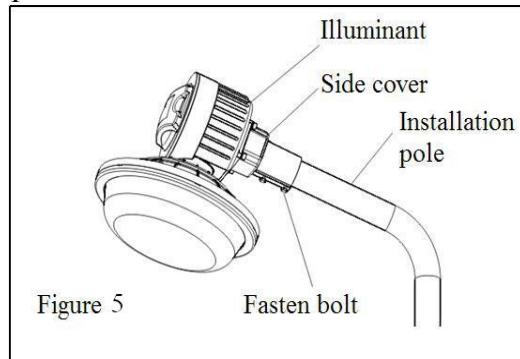

Figure 5
7. Model D(D-guard pole type and E-flange pole type), screw the two M6 bolts on the side cover into the screw holes in the installation pole then fasten them to ensure the reliable fastening of the light(See Figure 5).